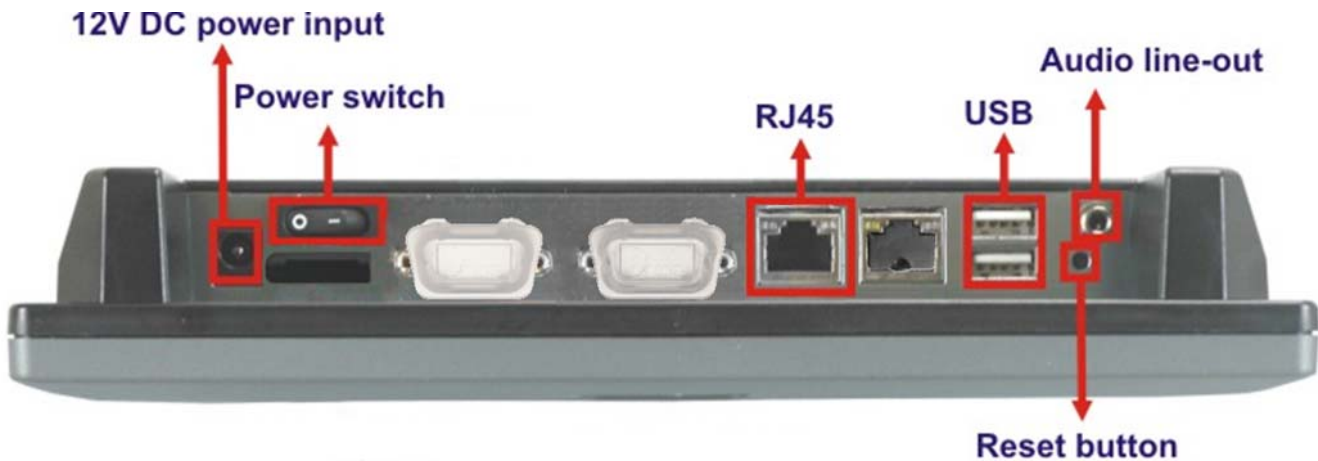

Figure 8 – DSM800 Interface Connector Panel
The external I/O interface connector panel is shown in Figure 8.
Step 1: Locate the USB connectors. The locations of the USB connectors are shown in Figure 8.
When the DSM800 is connected to an appropriate power source, you can use the power switch located on the back panel (see Figure 8) to turn the DSM800 on or off. If the DSM800 is turned on, then the LED found on the front panel will be illuminated blue. If the power switch is pushed to power down the DSM800, the LED will be illuminated yellow.